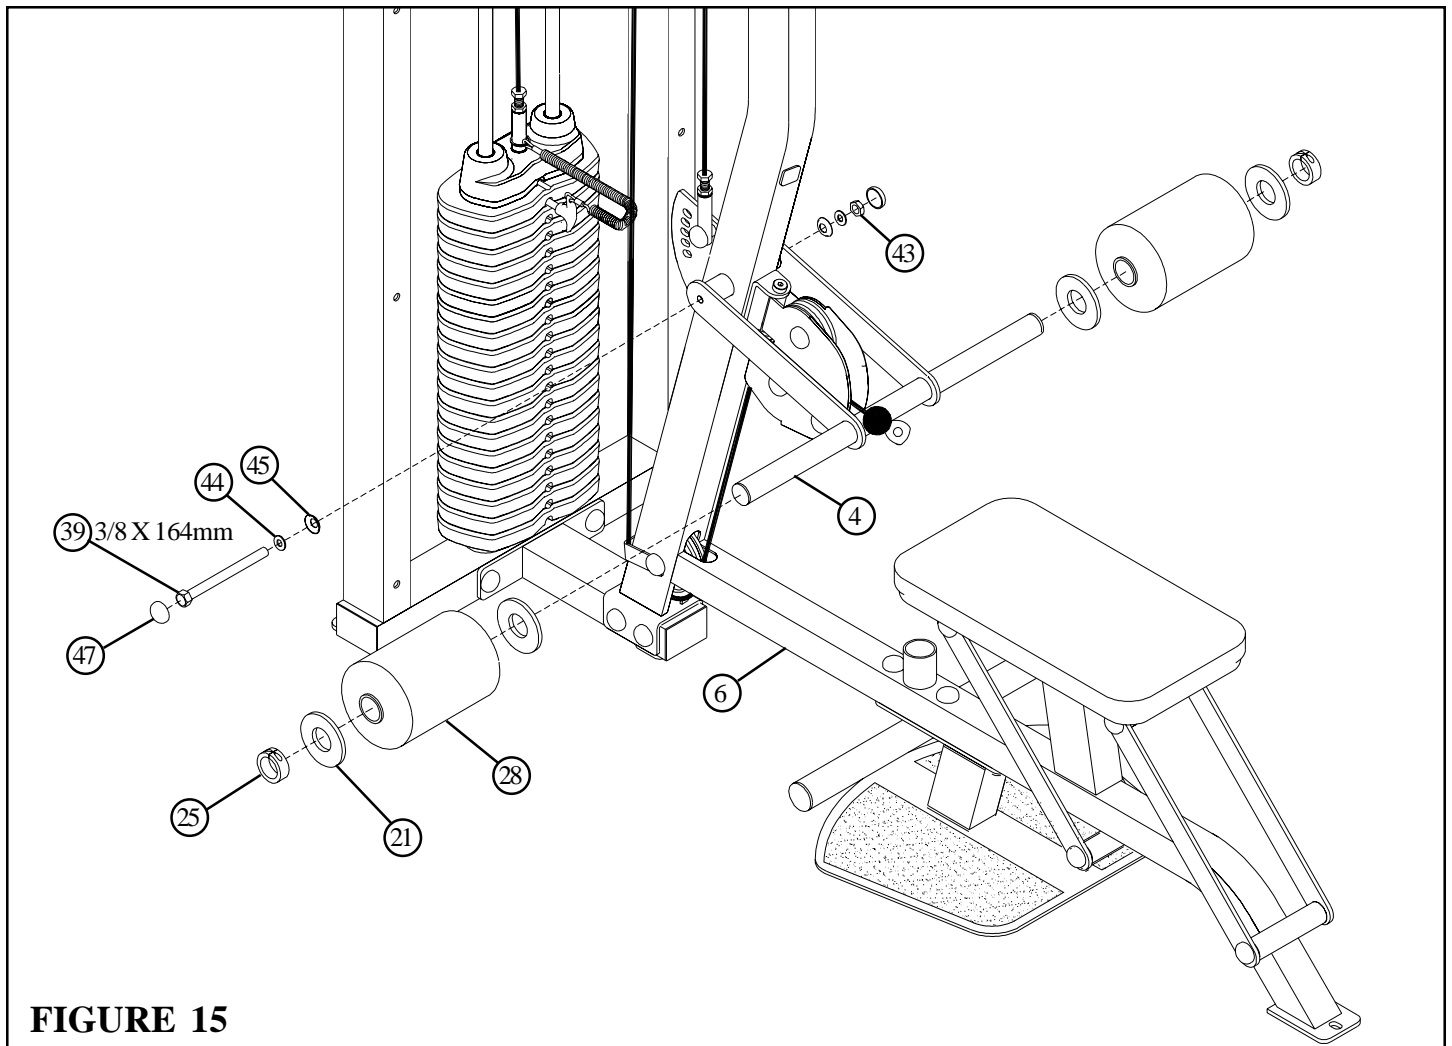

FIGURE 15
- **SECURELY** assemble the KNEE HOLD DOWN (4) to the LAT/LOW FRAME (6) using two RH CAPS (47), one 3/8 X 164mm BOLT (39), two 3/8" SAE WASHERS (44), two 3/8" RH WASHERS (45) and one 3/8" LOW HEIGHT LOCK NUT (43) as shown in FIGURE 15.
- Assemble two ROLLER PADS (28) and four 2-3/8" OD PLASTIC WASHERS (21) to the KNEE HOLD DOWN (4) using two 1-1/4" SHAFT COLLARS (25) as shown in FIGURE 15.